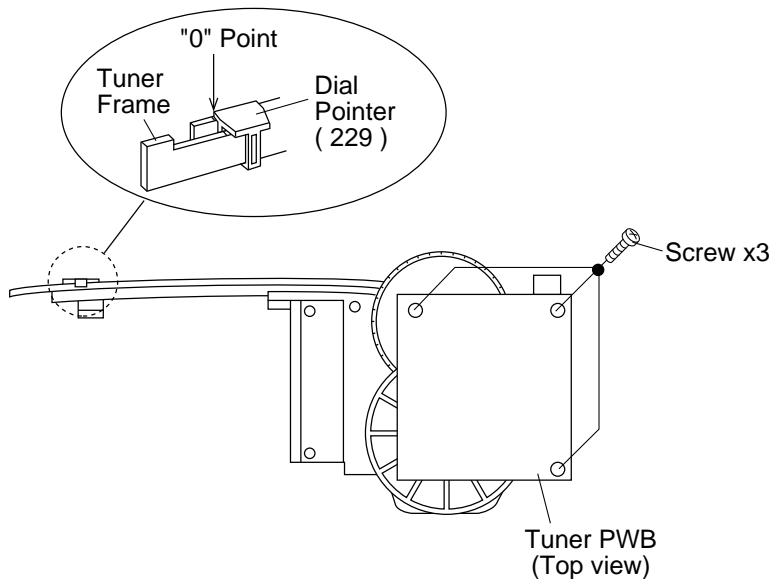

Figure 7-2
1. Remove the three screws, and remove the tuner PWB from the tuner frame. (See Fig. 7-2)
3. Set the dial pointer as shown in Figure 7-2, and mount the tuner PWB.